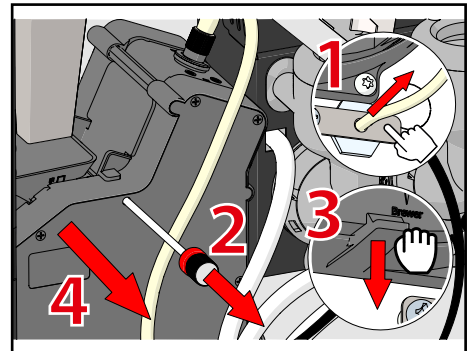

Figure 41.
6. Press the lever below the brewer; remove the hose (Figure 41 #1).
7. Take the brewer out of the machine (Figure 41); first remove the locking pin (#2), press the locking clip underneath (#3).